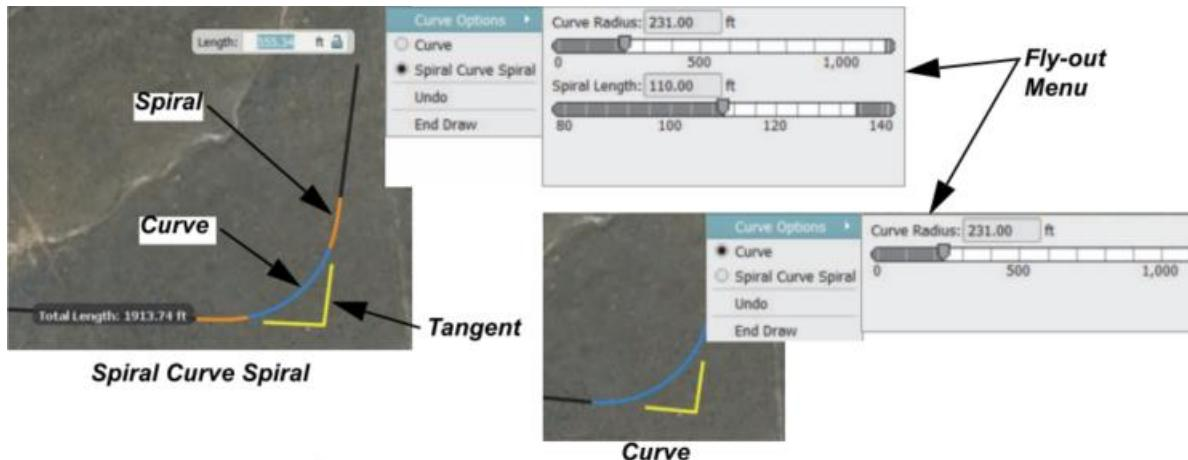

FIGURE 2
The design speed property of a roadway sets the minimum and maximum allowed curve radius and spiral lengths for a given point of intersection (PI) along a roadway. When you use the Highway Roads command, the default curve type is set to Spiral Curve Spiral. For all other design road commands (i.e., arterial, collector, or local), the default curve type is set to Curve. To change which curve type to use at a PI, right-click on the curve to display a fly-out menu, as shown in Figure 2. As you set the PI's, tangent lines (which project all the way to the actual point of intersection) display in yellow, curves display in blue, and spirals display in orange, as shown in Figure 2.